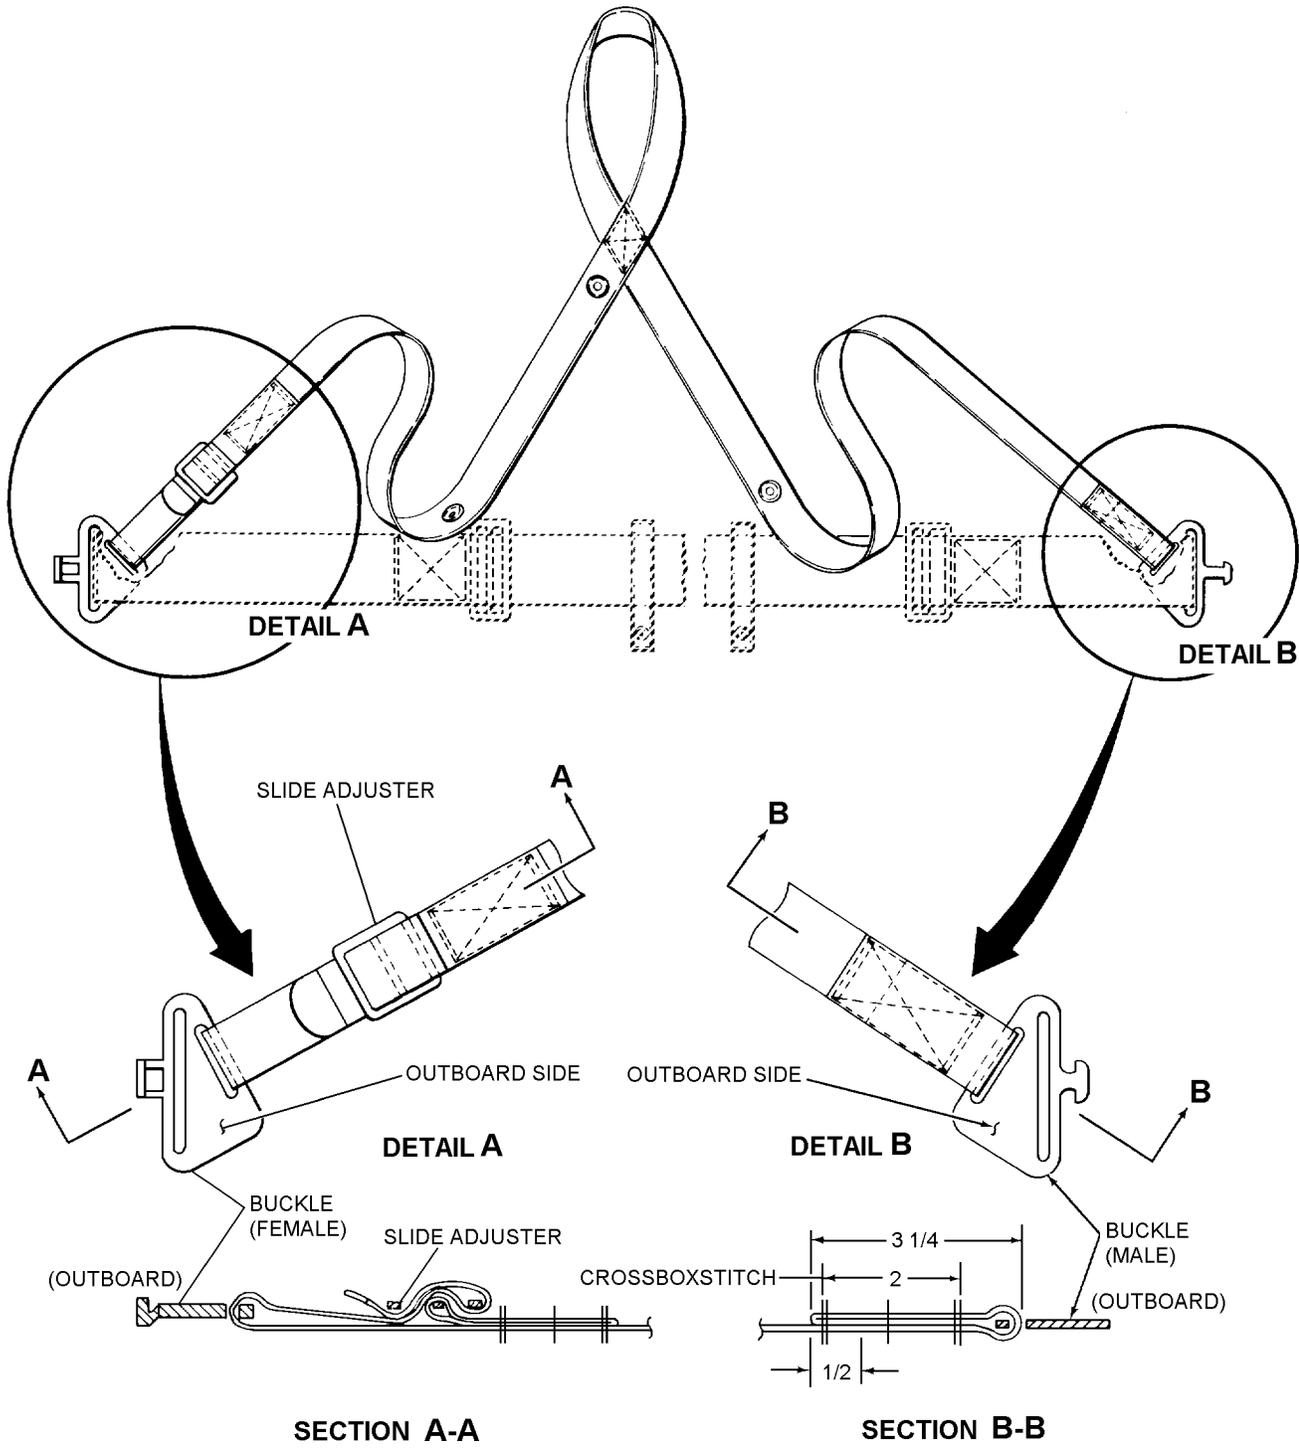

Figure 23-7. Hoisting Strap, Details
23-61. FABRICATION OF HOISTING STRAP (POUCH TYPE). To fabricate a hoisting strap, see figure 23-7 and proceed as follows:
7. Insert webbing through slot opening in male portion of buckle assembly; fold and stitch. See figure 23-7, detail A.
8. Insert webbing through slot opening in female portion of buckle assembly, and reeve through slide adjuster. See figure 23-7, detail B.